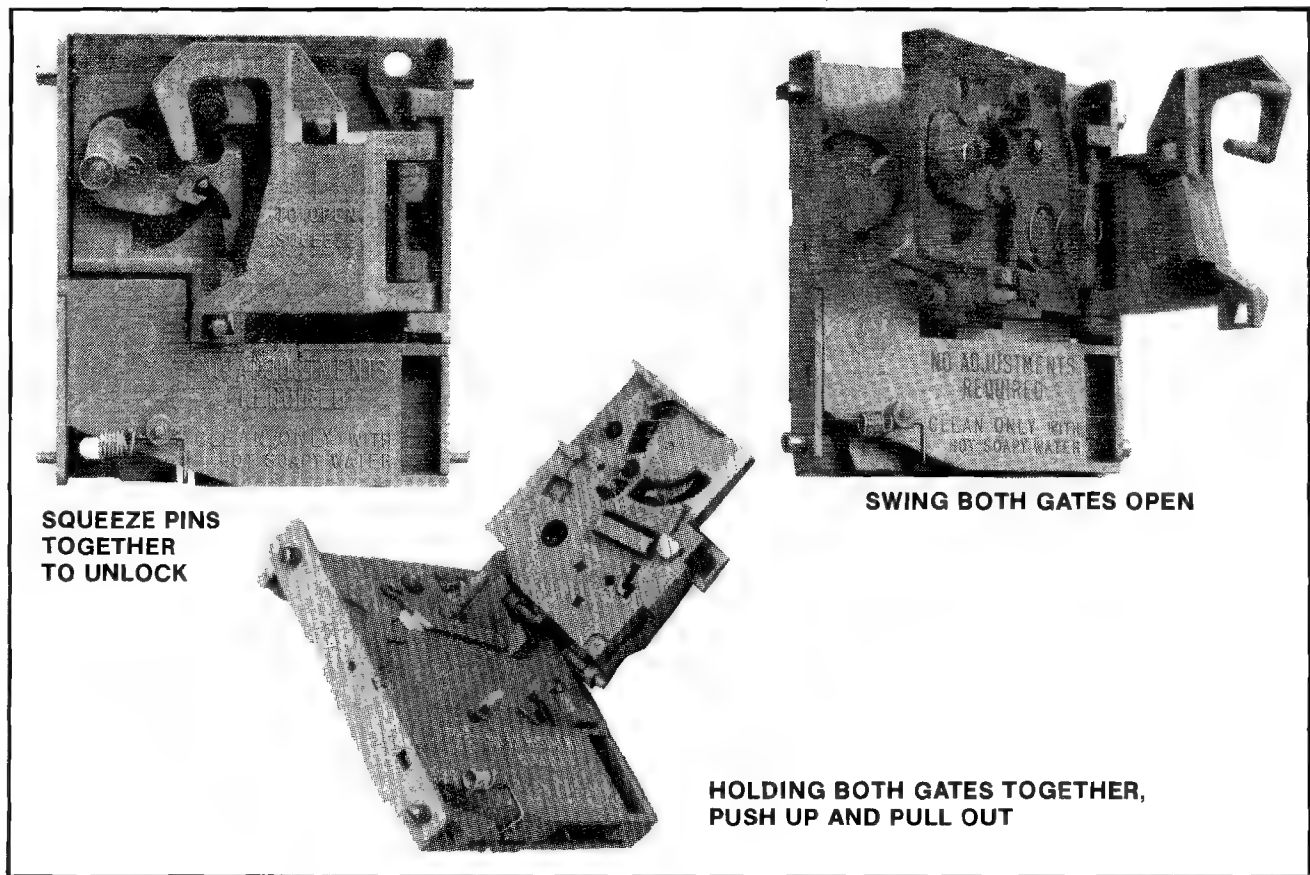

Figure 7-4 Opening the plastic coin acceptor
4. Squeeze the two pins indicated in Figure 7-4 together to open the mechanism and break it down into its three basic parts.